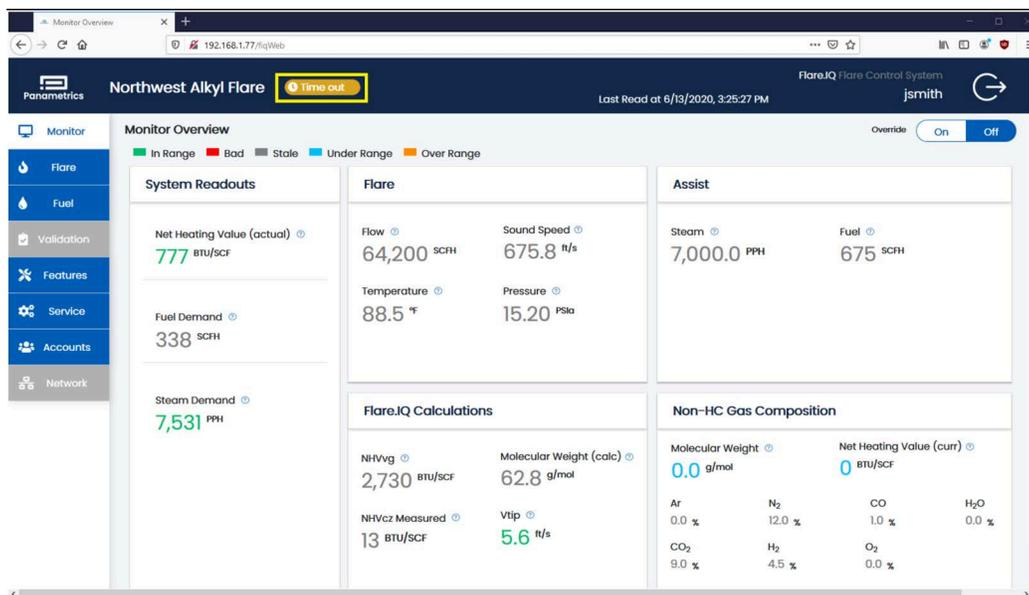

Figure 25: Control page under timeout conditions
- **Time Out** - The DCS has not disconnected/closed the TCP session with the flare.IQ but has not sent a Modbus request for more than 15 seconds (Figure 25).